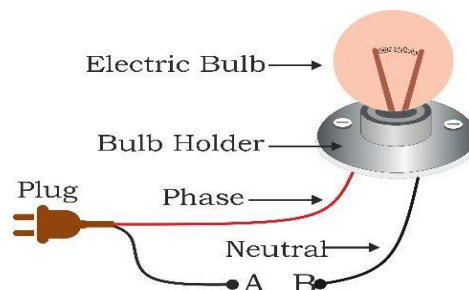

Fig. 2.8: Neutral terminal have two terminal A and B
Step 6. Leave one wire free for testing i.e. terminal A and B are used for testing as shown in Figure 2.8.